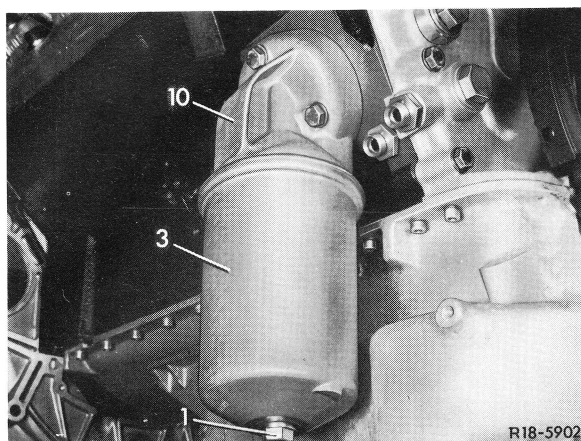

Fig. 2
2 Removal of filter housing (3) (Fig. 2).